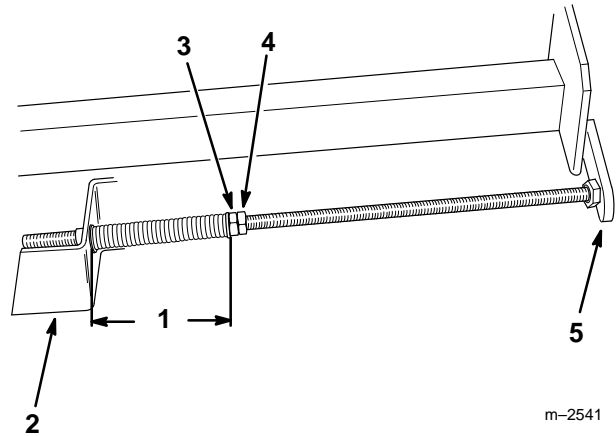

Figure 6
6. Insert the spring end of the adjusting shaft into the hole in the deck mounting bracket. Note that the small end of the bushing fits into the hole in the deck bracket. Insert the locknut end of the adjusting shaft into the carrier frame mounting tab (Fig. 6).
7. To tension the belt, tighten the front jam nut on each adjusting shaft until the springs are compressed to 5" (12.7 cm). Measure the spring compression between the spacer and the bushing (Fig. 6).
8. Tighten the rear jam nuts (Fig. 6).